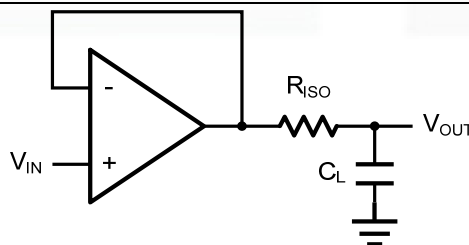
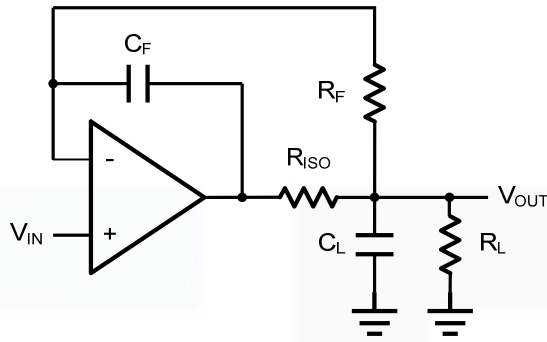

Figure 2. Indirectly Driving a Capacitive Load Using Isolation Resistor
Figure 3. Indirectly Driving a Capacitive Load with DC Accuracy
The GS8331Q1 is optimized for bandwidth and speed, not for driving capacitive loads. Output capacitance will create a pole in the amplifier's feedback path, leading to excessive peaking and potential oscillation. If dealing with load capacitance is a requirement of the application, the two strategies to consider are (1) using a small resistor in series with the amplifier's output and the load capacitance and (2) reducing the bandwidth of the amplifier's feedback loop by increasing the overall noise gain. Figure 2. shows a unity gain follower using the series resistor strategy. The resistor isolates the output from the capacitance and, more importantly, creates a zero in the feedback path that compensates for the pole created by the output capacitance.
The circuit in Figure 3 is an improvement to the one in Figure 2.  $R_F$  provides the DC accuracy by feed-forward the  $V_{IN}$  to  $R_L$ .  $C_F$  and  $R_{ISO}$  serve to counteract the loss of phase margin by feeding the high frequency component of the output signal back to the amplifier's inverting input, thereby preserving the phase margin in the overall feedback loop. Capacitive drive can be increased by increasing the value of  $C_F$ . This in turn will slow down the pulse response.